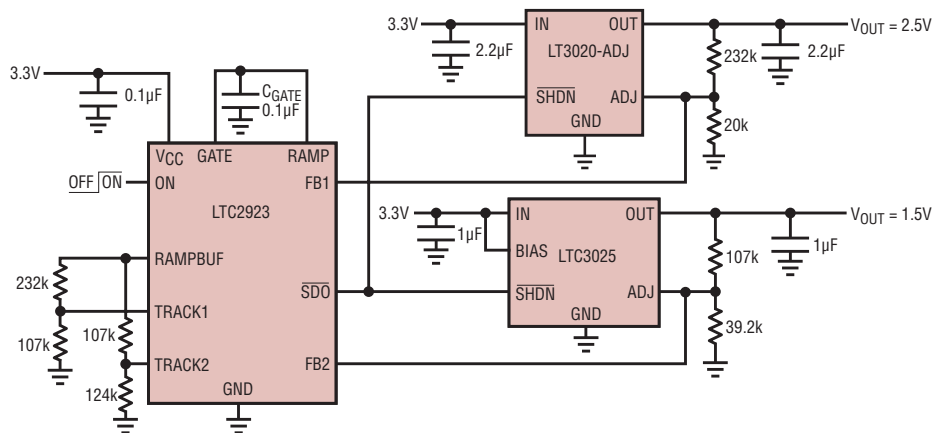

Figure 1. An LTC2923 causes the outputs of the LT3020 and LTC3025 to track during power-up and power-down.
- The LTC3020 is a 100mA low dropout regulator (LDO) that operates with input supply voltages between 1V and 10V. Since its ADJ pin behaves like the feedback pin on most switching regulators, tracking the LTC3020’s output using the LTC2923 is simple. The standard circuits and design procedures shown in the LTC2923 data sheet require no modification when used with the LTC3020 (Figures 1 and 2).
- The LTC3025 is a 300mA monolithic CMOS LDO that regulates input supplies between 0.9V and 5.5V, while a bias supply between 2.5V and 5.5V powers the part. Similar to the LT3020, the LTC3025’s ADJ pin is operationally identical to common switches. For that reason, the LTC3025 combined with an LTC2923 provides a simple supply tracking solution for loads less than 300mA (Figures 1 and 2).